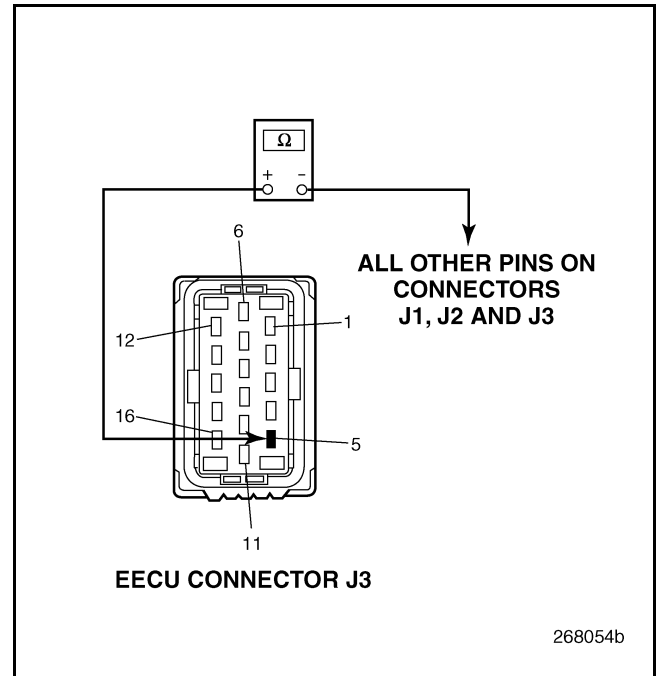

Figure 768
4. Check for continuity between EECU harness connector J3 pin 5 and all other pins on EECU connectors J1, J2 and J3 (see Figure 768).